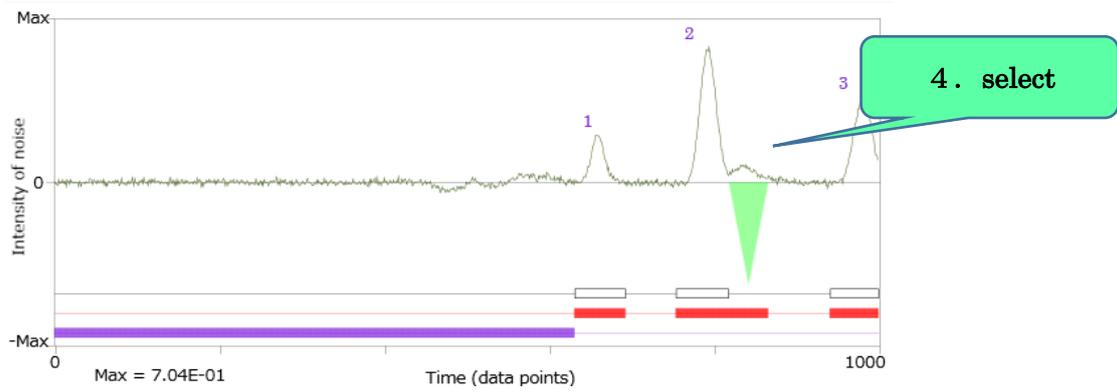

Figure 23 --- Chart (selection of the second peak)
3. press the Eliminate button to create a new signal region (white block) (see Fig. 23, but neglect ▼);
4. select  Add of the Signal Entry group and click the other peak to set a new region (see ▼ of Fig. 23);